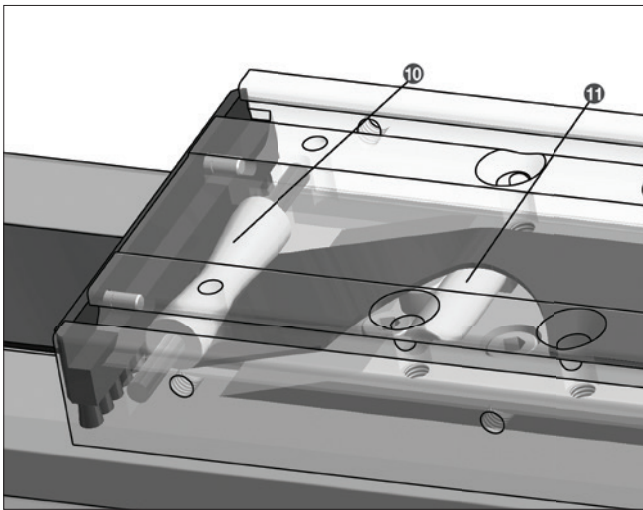

Figure 4.16 \_\_ Cover strip deflection
4. Make sure that the guiding roller **10** in the table unit and the pressure roller **11** in the slider plate can be easy moved and are free from wear, if applicable and clean or replace them (Figure 4.16). In the case of wear-related replacement of the cover strip, we always recommend replacing the guiding and pressure rollers as well (wear parts sets see Chapter 4.16).